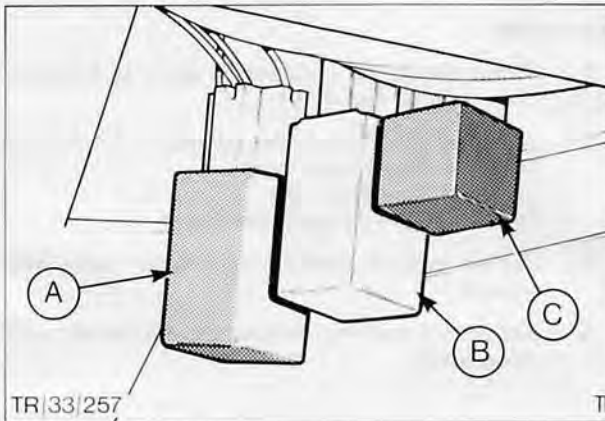

Fig. 44. Relay location
2. Unclip relay from its location under facia panel, above hood release, Figs. 44 and 45.